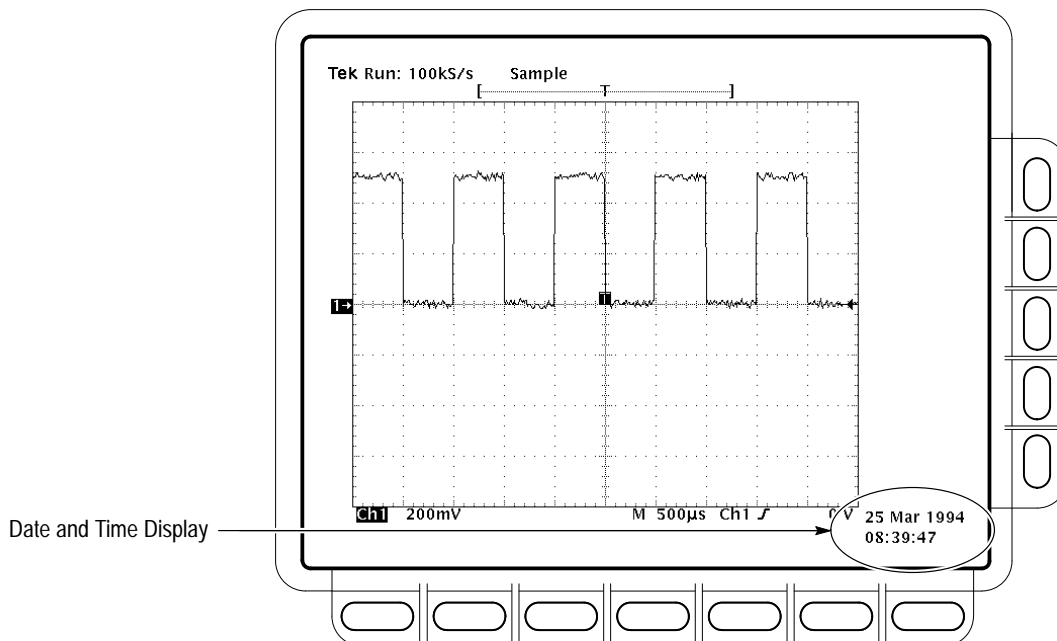

Figure 3-72: Date and Time Display
3. Press **Clear Menu** to remove the menu from the display so the date and time can be displayed. (See Figure 3-72.) (The date and time are removed from the display when menus are displayed.)